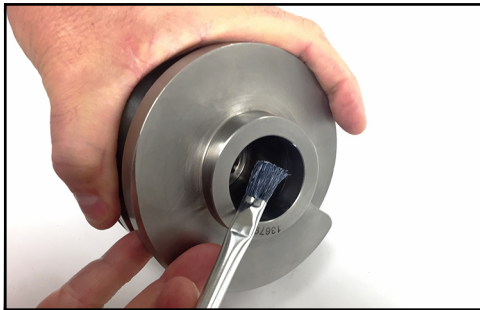

Figure 109 - Apply anti-seize
1. Apply anti-seize to the inner rim of the screw to ease assembly as shown in Figure 109.